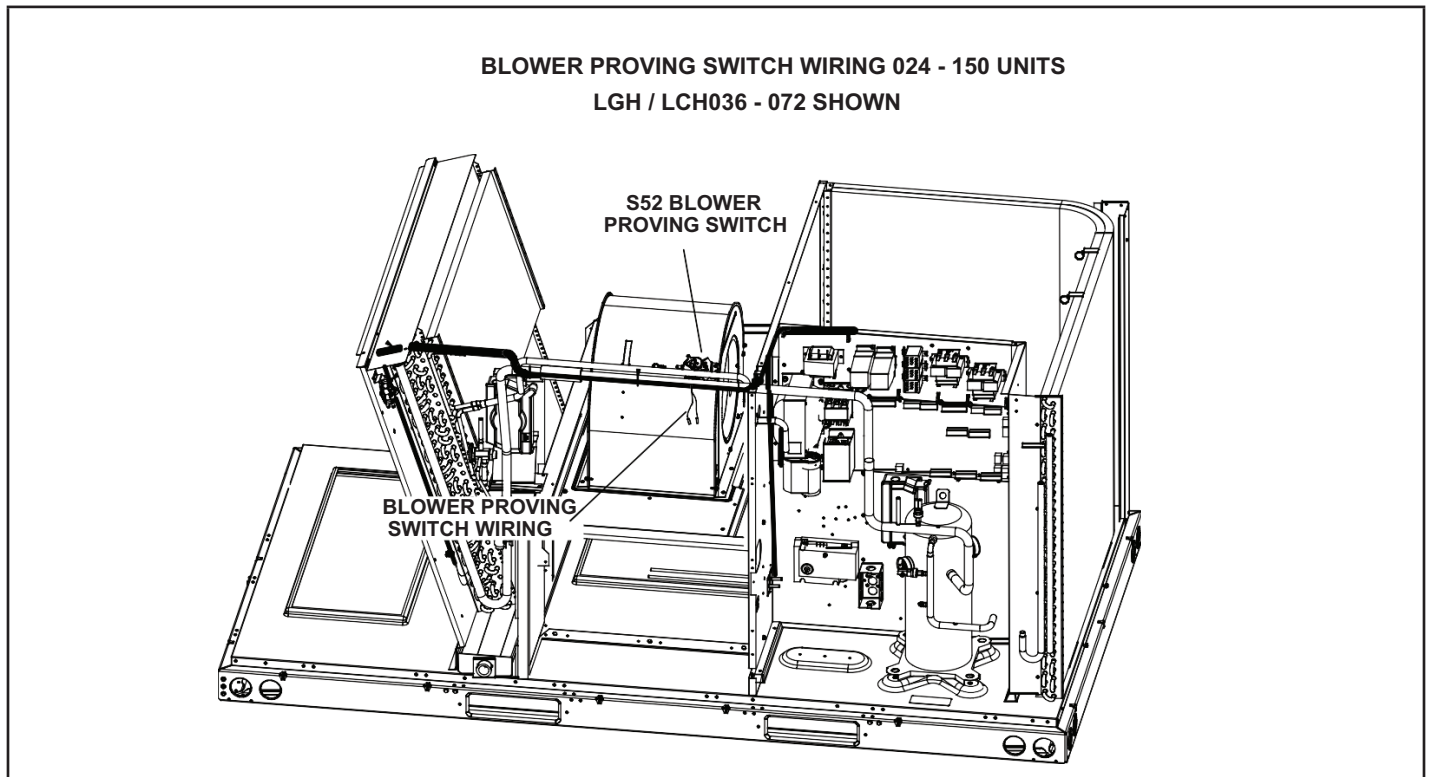
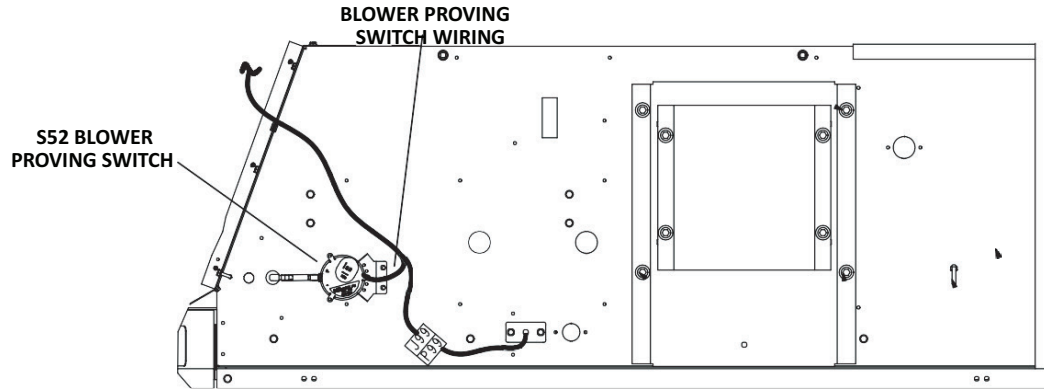
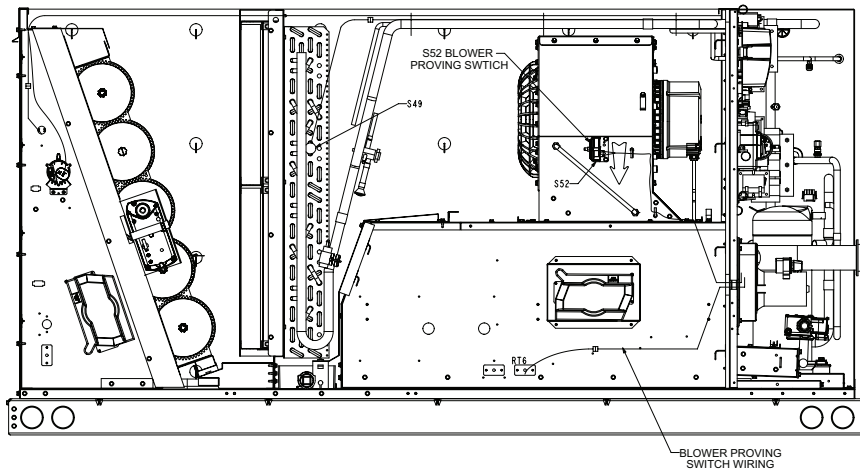
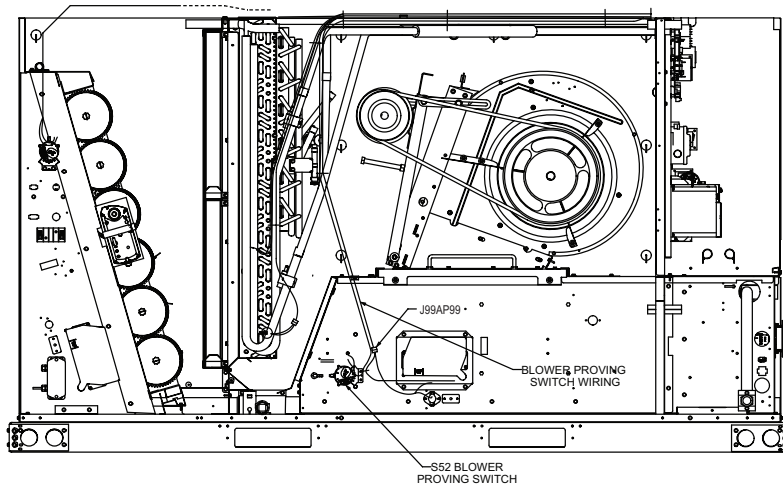

FIGURE 9
FIGURE 10
FIGURE 11
FIGURE 12
Locate the wires hanging near the blower proving switch labeled “S52”. Connect wires to the blower proving switch terminals. See figure 9 for LG/LC/LH/LD 024-150 units, figure 10 for LG/LC 156-300S units, figure 11 for SG/SC/SH/SD 036 – 060(S) units and figure 12 for SG/SC/SH/SD 092-120 units.